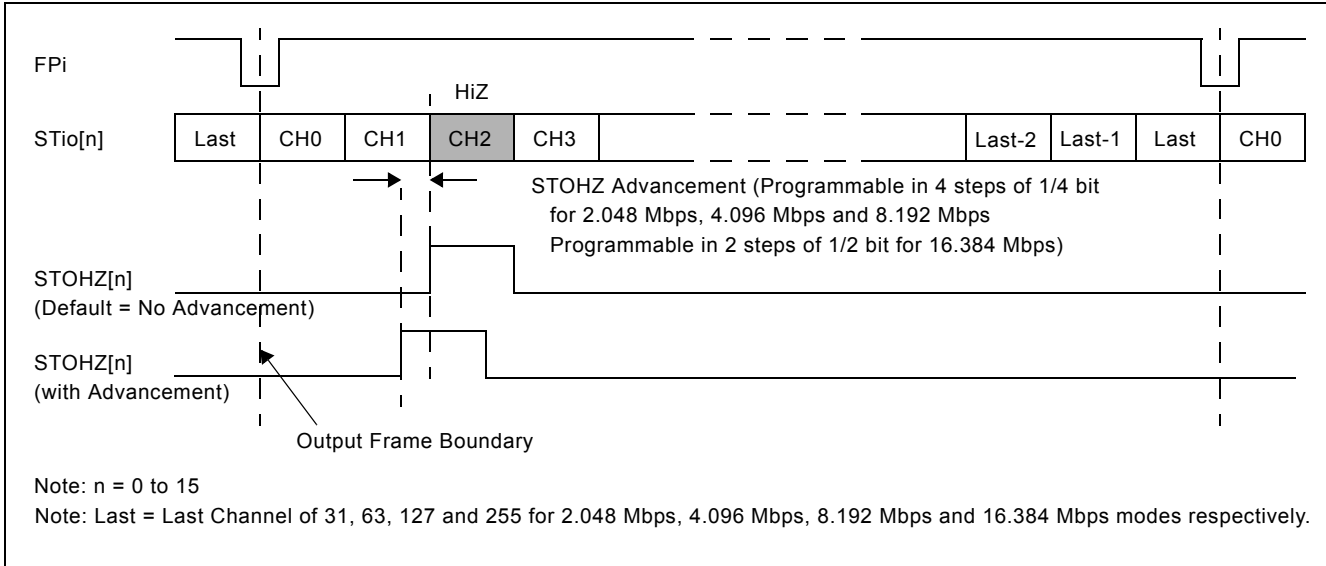

Figure 16 - Channel Switching External High Impedance Control Timing
There are 16 external high impedance control signals, STOHz0 - 15, that are used to control the external drivers for per-channel high impedance operations. Only the first sixteen ST-BUS/GCI-Bus (STio0 - 15) outputs are provided with corresponding STOHz signals. The STOHz outputs deliver the appropriate number of control timeslot channels based on the output stream data rate. Each control timeslot lasts for one channel time. When the ODE pin is high and the OSB (bit 2) of the Control Register (CR) is also high, STOHz0 - 15 are enabled. When the ODE pin, OSB (bit 2) of the Control Register (CR) or the RESET pin is low, STOHz0 - 15 are driven high, together with all the ST-BUS/GCI-Bus outputs being tristated. Under normal operation, the corresponding STOHz outputs of any unused ST-BUS/GCI-Bus channel (high impedance) are driven high. Refer to Figure 16 on page 26 for a diagrammatical explanation.